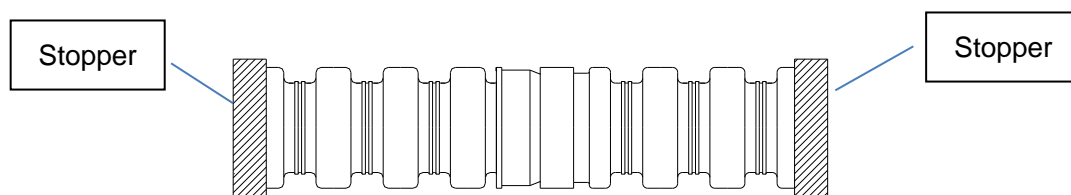

Fig.2
- 2) Stop up the each end side to prevent the water coming inside (Fig.2).